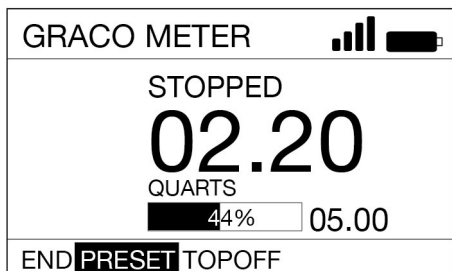

FIG. 35
4. Use the LEFT and RIGHT ARROWS to select PRESET (H). Press the ENTER button (FIG. 35).